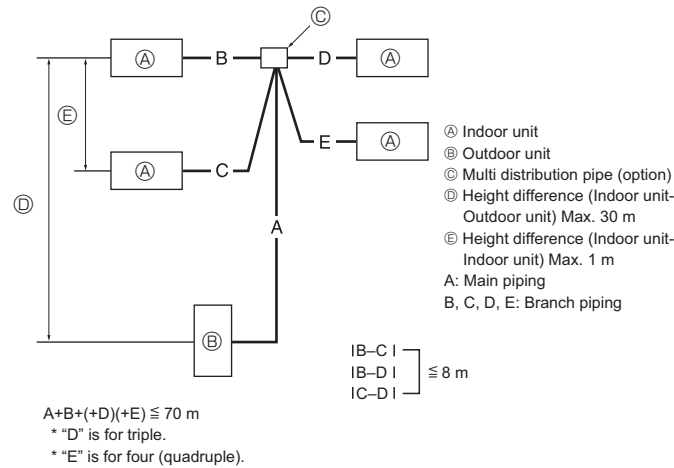

Fig. 4-9
4.7. For twin/triple/quadruple combination (Fig. 4-9)